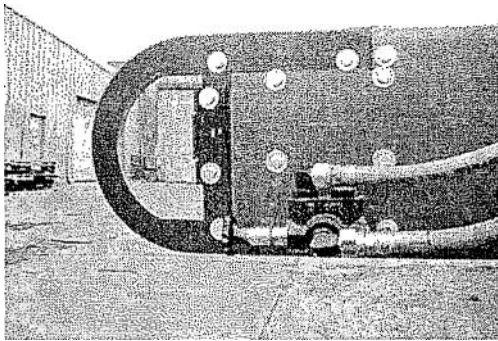

Fig. 3-2 Control valve at nose of FBR conveyor allows receiving person to stop and start belt.
- 3.) FBR belt-type conveyors have a control valve at the nose end allowing the person receiving materials coming off of the conveyor to stop or start the belt when necessary (see Figure 3-2).